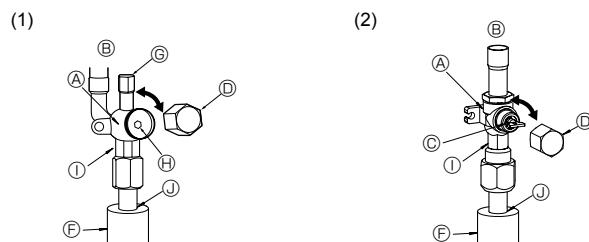

Fig. 4-6
(1) Liquid side of stop valve (Fig. 4-6)
- ① Remove the cap and turn the valve rod counterclockwise as far as it will go with the use of a 4 mm hexagonal wrench. Stop turning when it hits the stopper. (Approximately 10 revolutions)
- ② Make sure that the stop valve is open completely and rotate the cap back to its original position.